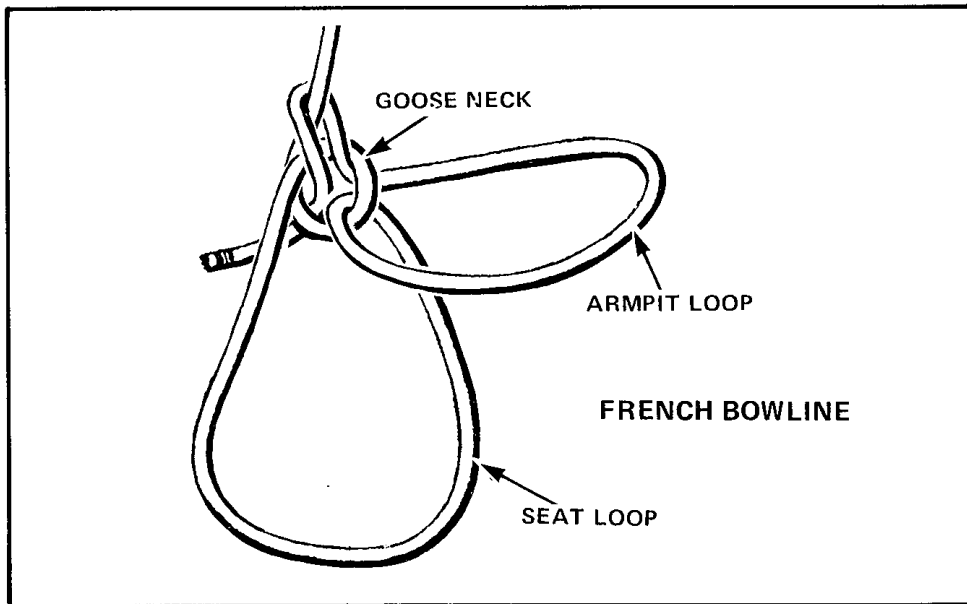

Figure 4-57 French Bowline
6. **French Bowline** — (See Figure 4-57.) An alternative to the bowline on the bight, and usually more suitable, is the French bowline. It is made in a similar manner to a bowline, except that after the gooseneck has been formed and the end passed up through it the end is brought round and up through it again, so as to form a large bight which is passed under a man's armpits. The knot is then completed as for a simple bowline.